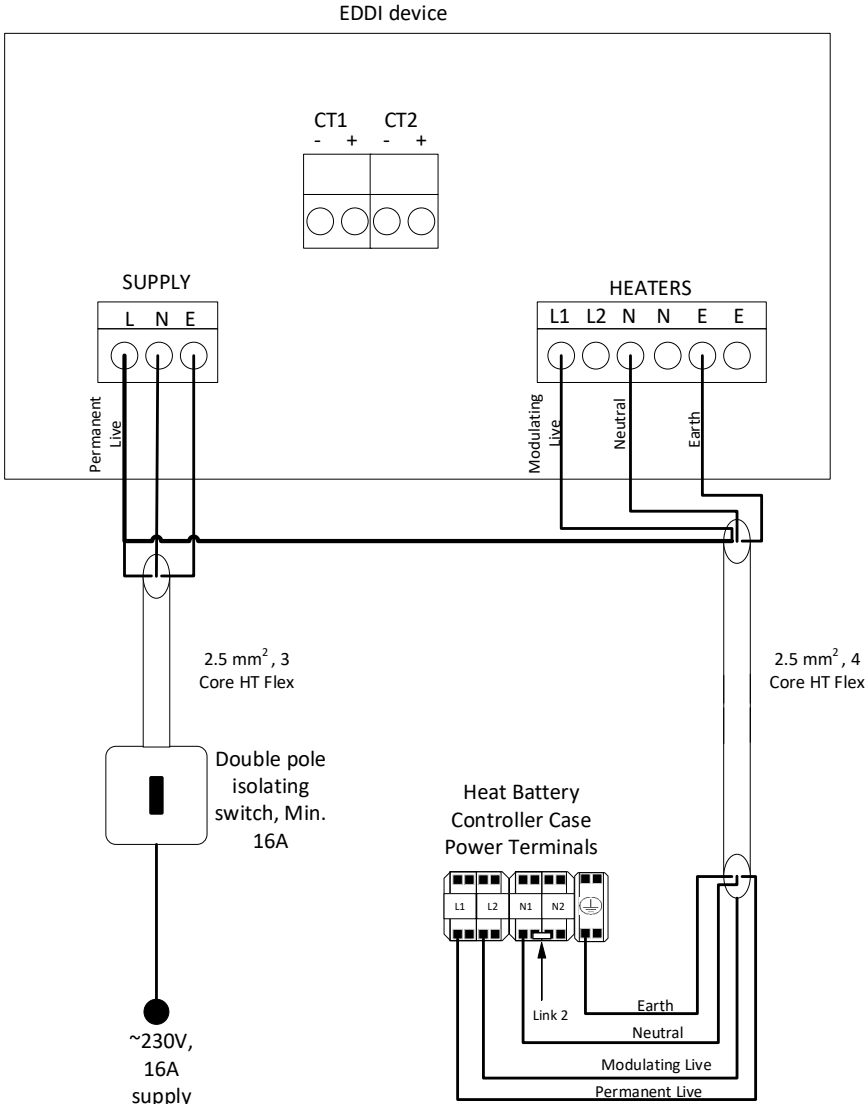

Figure 15: Exemplary Solar Power Diverter wiring – “MYENERGI EDDI”
- Prepare if necessary and wire the mains power cable from the Sunamp Controller in the following terminals on the Solar Power Diverter (Figure 15):
- Prepare if necessary and wire the mains power cable Solar Power Diverter (Figure 15):